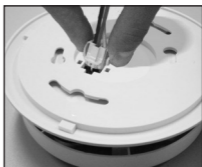

FIGURE 4
5. Remove the cardboard square from the connector pins and plug the AC QUICK CONNECTOR into the back of the alarm (see figure 4), making sure that the locks on the connector snap into